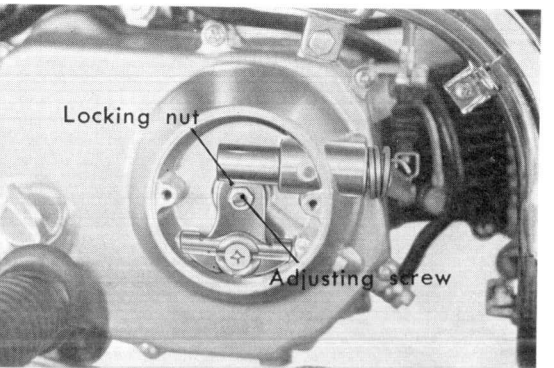
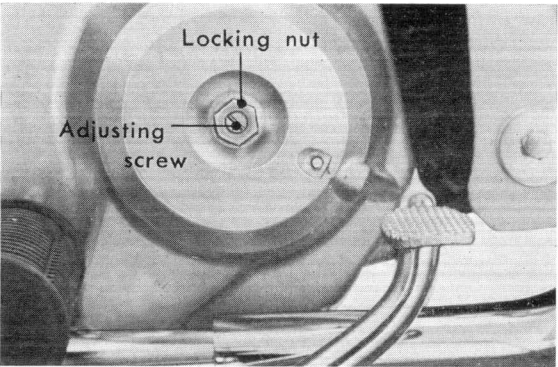

Figure 6-24. Adjusting the clutch (S50, S65)
Figure 6-25. Adjusting the clutch (C50, C50M, C65, C65M)
(1) For model C50, C50M, C65 and C65M check for slippage of the clutch and the disengaging action.
(2) For adjusting the clutch on model S50, S65 remove the clutch cover, loosen the locking nut and adjust with the screw. (Fig. 6.24) The adjustment of the clutch may also be performed at the adjuster on the clutch cable. On C50, C50M, C65 and C65M model, the adjustment can be made without removing the clutch cover. (Fig. 6-25)